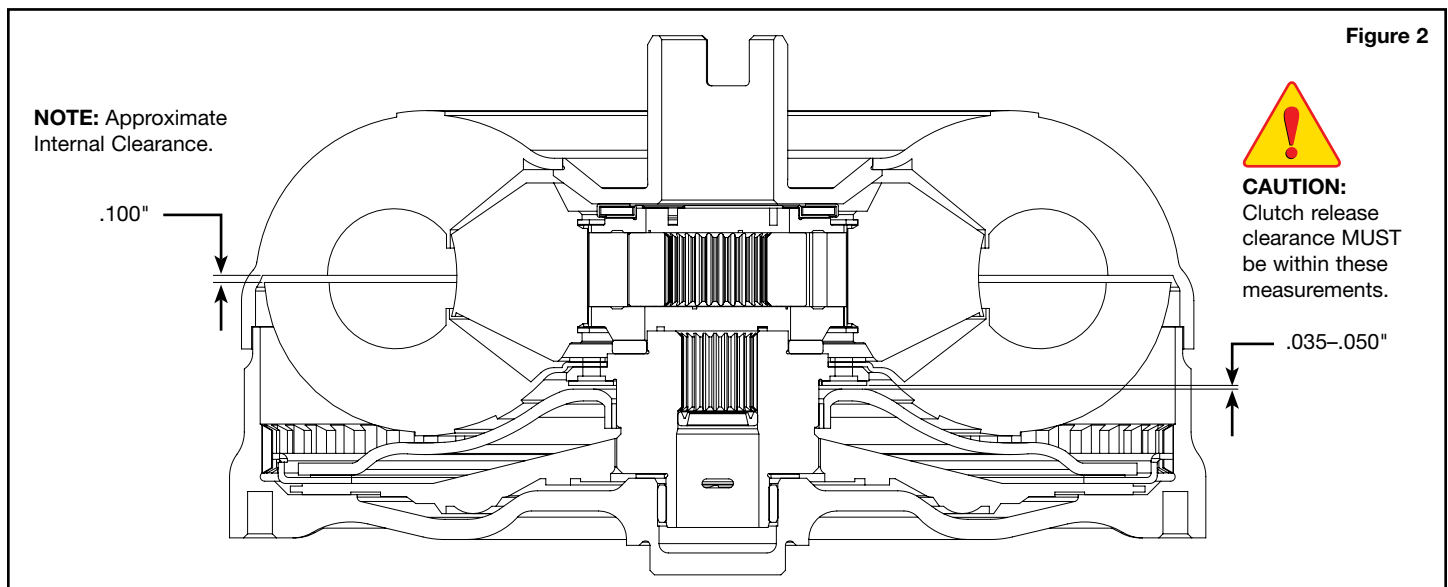

Figure 2
- e. Check clutch release clearance recommended at .035-.050" (**Figure 2**).
- f. Check internal clearance recommended at approximately .100" (**Figure 2**).